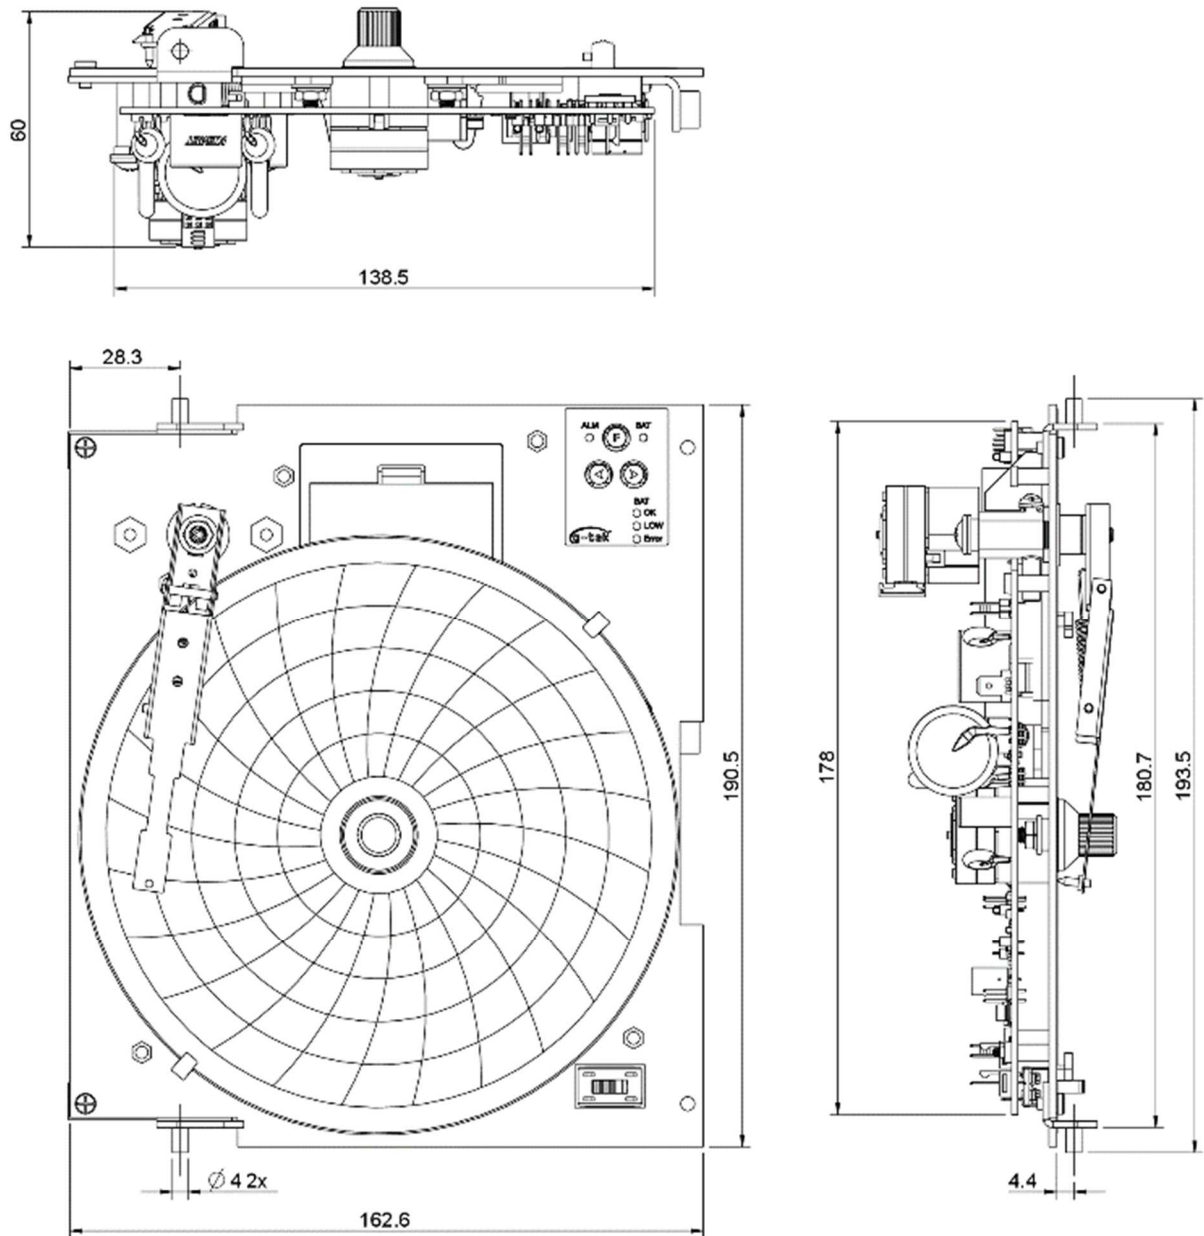

Figure 5 - Overall Mechanical Dimensions of Chart recorder with Clamps
2. The figure 5 shows the overall dimensions of the Chart recorder with clamps for hinge mounting details dimensions.